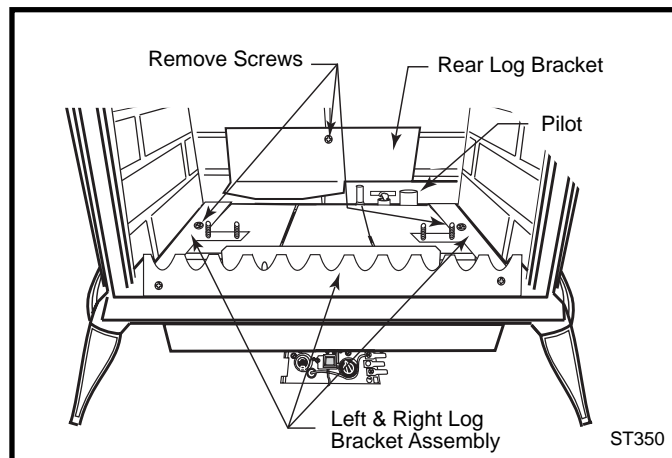

Fig. 53 Remove rear log bracket and left and right log bracket assembly.
9. Remove the rear log bracket by unfastening the screw. (Fig. 53)
10. Remove the right and left log bracket assembly by unfastening the two screws which hold the burner in place. (Fig. 53)
12. Locate pilot. (Fig. 53)